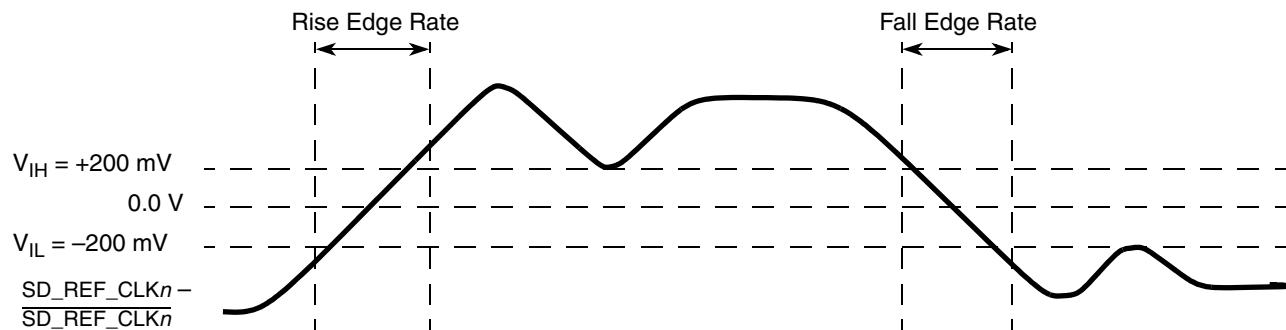

Figure 40. Differential measurement points for rise and fall time
waveform is not referenced to ground. See Figure 40, “Differential measurement points for rise and fall time,” as an example for differential waveform.
3. Measured from -200 mV to +200 mV on the differential waveform (derived from SD_REF_CLK n minus SD_REF_CLK n). The signal must be monotonic through the measurement region for rise and fall time. The 400 mV measurement window is centered on the differential zero crossing. See Figure 40.